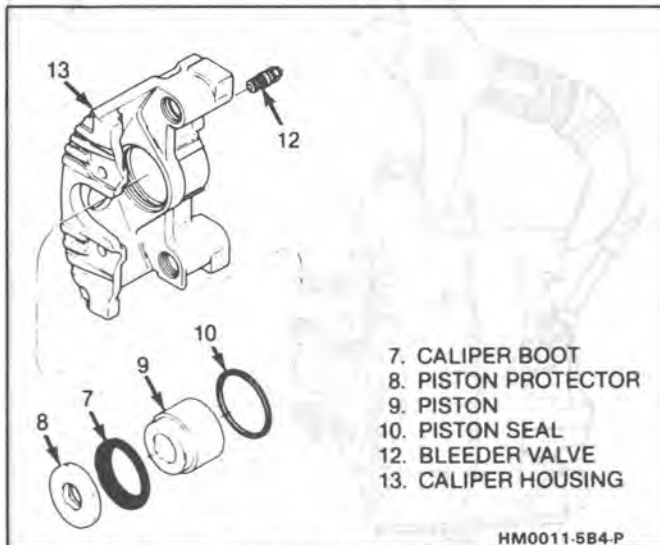

Fig. 11 Caliper Assembly
2. Piston (9) using compressed air into the caliper inlet hole (Figures 11 & 12).
- Use clean shop towels to pad the interior of the caliper (13) during removal.